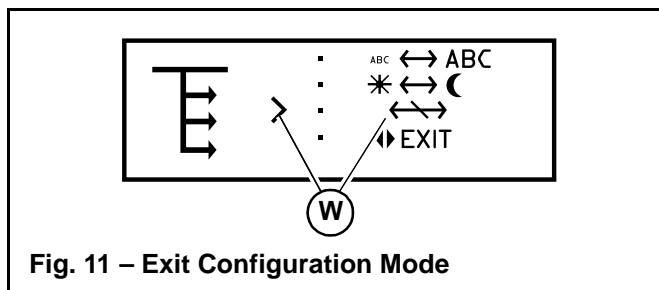

Fig. 11 – Exit Configuration Mode
- Press and release the interface button until the selection caret points to the “EXIT” selection (W, Fig 11). Press and hold the interface button for 5 seconds. The D-H control pattern option is now activated.